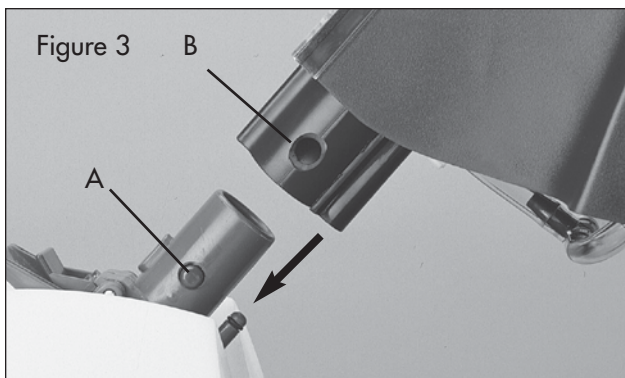

Figure 3
### ASSEMBLY STEP THREE (Figures 3 and 4):
2. Align the nozzle so the red nozzle change button (Figure 3-A) is in line with the corresponding hole in the nozzle (Figure 3-B).
3. Depress the small red nozzle change button (Figure 3-A) and slide the nozzle over the unit shaft until the button locks into place.